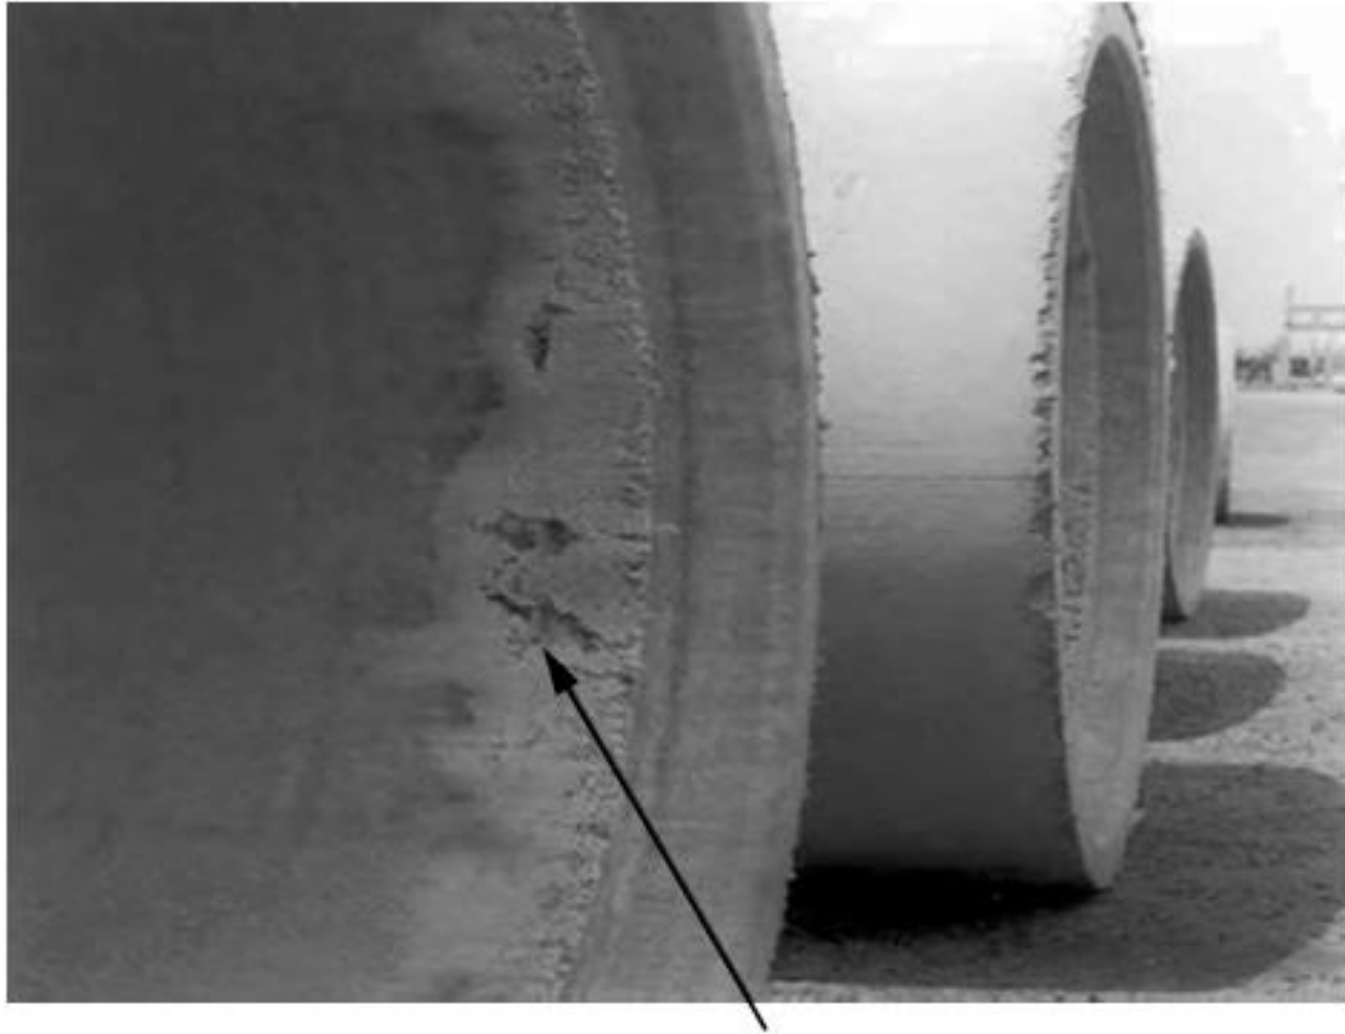

Figure 12—Repairable Honeycombing (Photo Courtesy of ACPA)
5.3.2.1. Honeycombing and bleedout surface conditions less severe than stated in Section 6.4.4, as shown in Figures 12, 13, and 14, are repairable. The repair area of any single defect must be less than 4 percent of the total external surface area. The cumulative repair area must be less than 10 percent of the external surface area in a product.